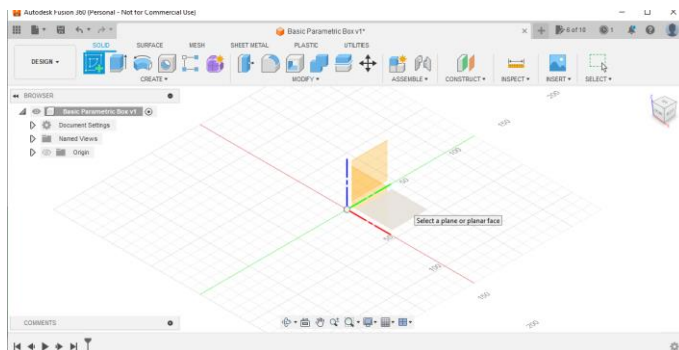

Figure 4: Selecting the X:Y plane
2. Move your mouse near the origin until the X:Y plane is selected as in Figure 4. Click the highlighted panel to create the sketch.